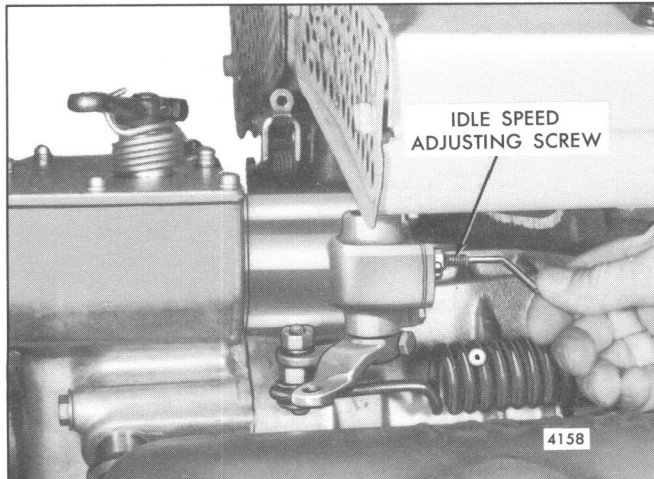

Fig. 7 – Adjusting Idle Speed
3. Loosen the locknut and turn the idle speed adjusting screw until the engine is operating at approximately 15 rpm below the recommended idle speed (Fig. 7). The recommended idle speed is 550 RPM, but may vary with special engine applications.